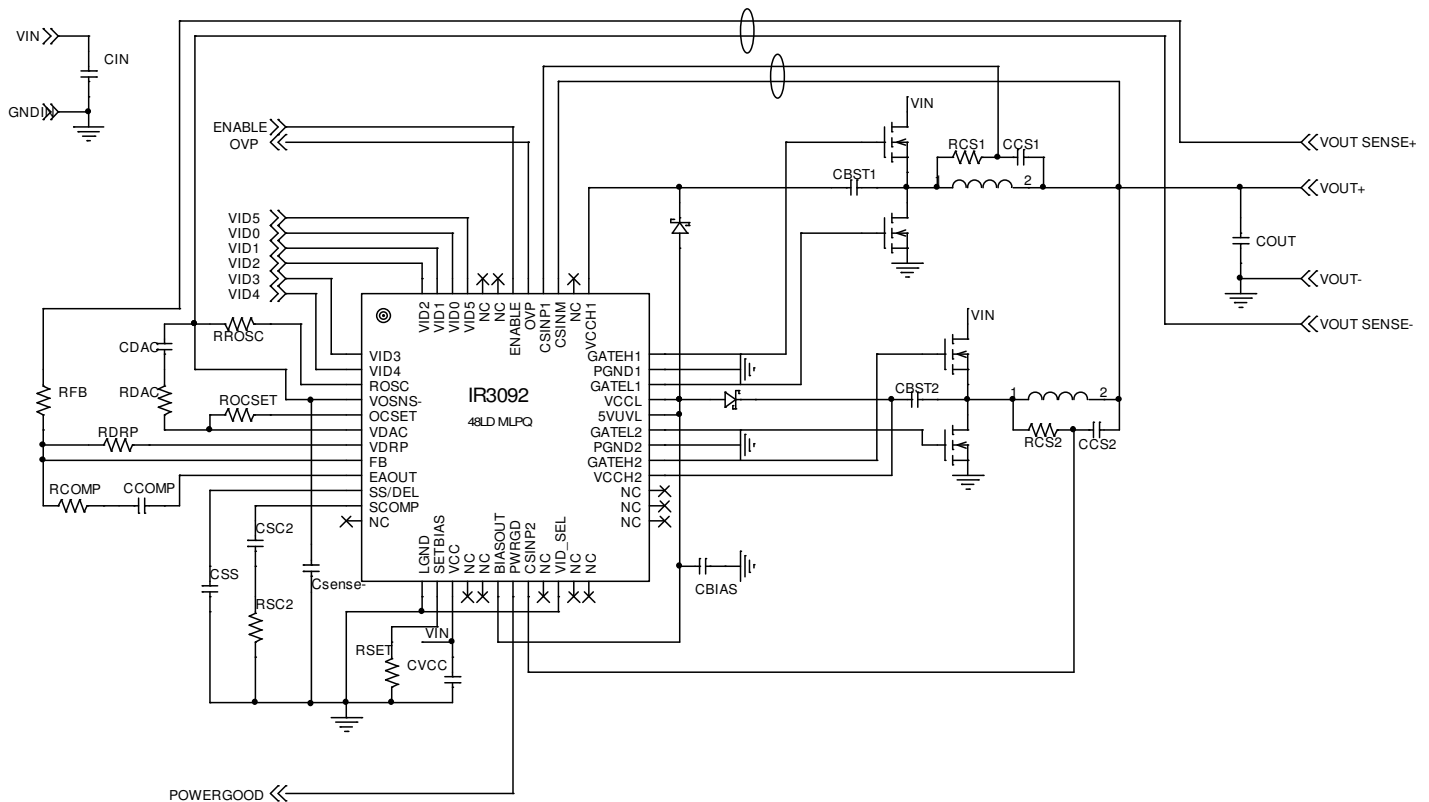

Figure 6 – System Diagram
VDAC sink current I_{SINK} and source current I_{SOURCE} are determined by R_{ROSC} , and their value can be found using the curve in the Typical Operating Characteristics. The slew rate of VDAC down-slope SR_{DOWN} can be programmed by the external capacitor C_{DAC} as defined in Equation (1) and shown in Figure 6. Resistor R_{DAC} is used to compensate VDAC circuit and is determined by Equation (2). The slew rate of VDAC up-slope SR_{UP} is proportional to the down-slope slew rate SR_{DOWN} and is given by Equation (3).
The oscillator frequency is programmable from 100kHz to 540kHz with an external resistor R_{ROSC} as shown in Figure 6. The oscillator generates an internal 50% duty cycle saw tooth signal (Figure 4.) that is used to generate 180° out-of-phase timing pulses to set Phase 1 and 2 RS flip-flops. Once the switching frequency is chosen, R_{ROSC} can be determined from the curve in the I(SETBIAS) vs. R_{ROSC} curve in the Typical Operating Characteristics Section.